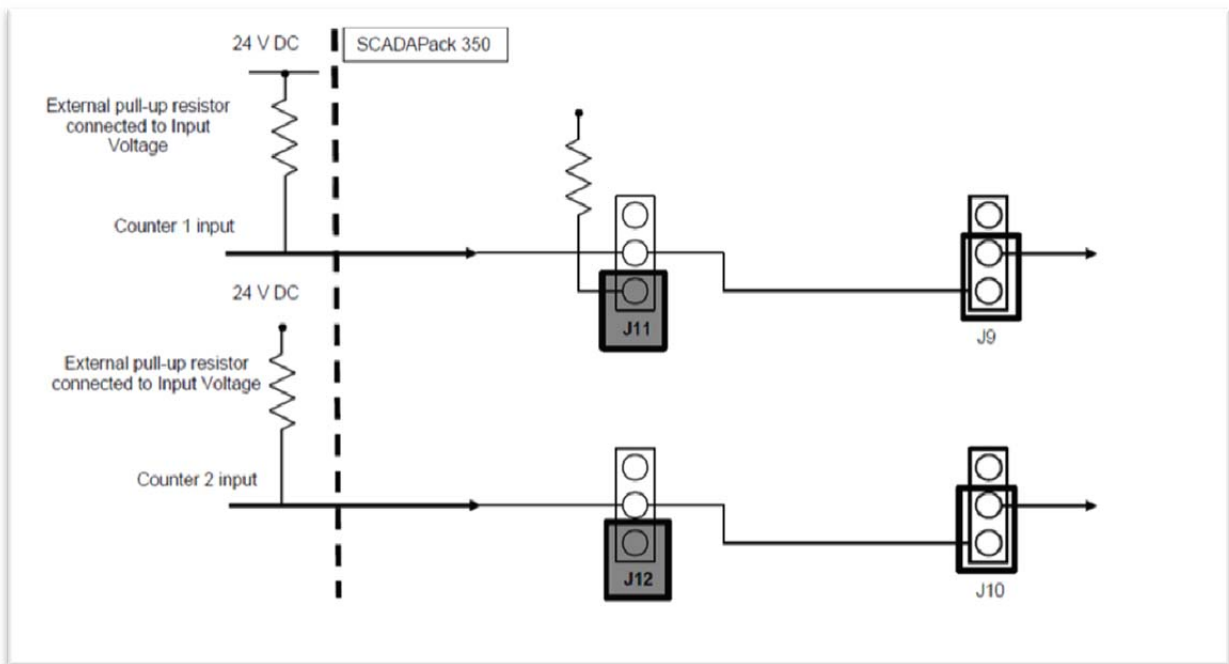

Figure 4. SCADAPack 350 Circuit Diagram 24V
- This jumper is not used and can be stored, if required, on the single header pin as shown in **Figure 4**.